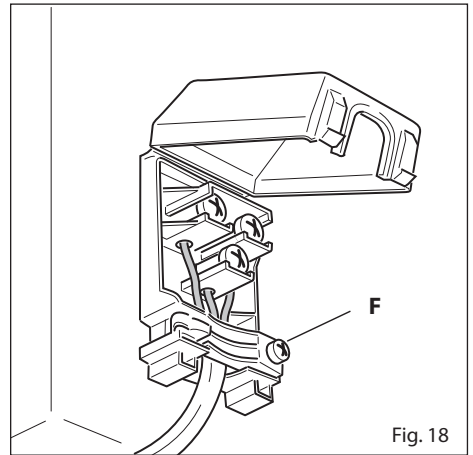

Fig. 18
- Open the cable gland by unscrewing screw "F" (fig. 18), unscrew the terminal screws and remove the cable.